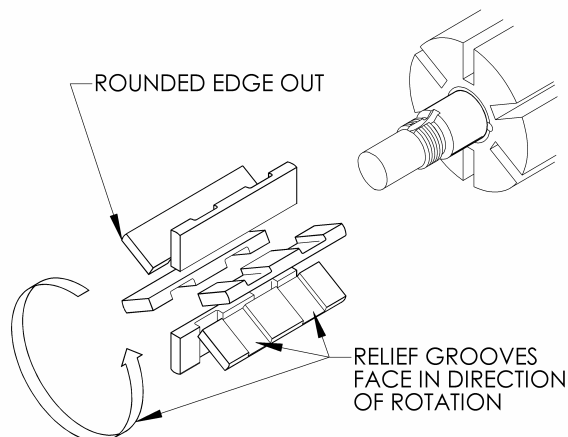

Figure 8 – Vane Installation
3. Turn the shaft by hand until a vane (14) comes to the top (12 o'clock) position of the rotor. Remove the vane.
4. Install a new vane (14), ensuring that the rounded edge is UP, and the relief grooves are facing towards the direction of rotation. See Figure 8.
1. Apply a small amount of grease to the liner key (74) to hold the key in place during liner installation. Install the liner key (74) in the groove on top of the liner (41).
2. Align the liner key (74) with the pump casing keyway and start the liner (41) into the casing (12). The word 'INTAKE' cast on the liner must face the intake port of the pump casing. Uniformly tap the outer edge of the liner with a rubber mallet to fully insert into the casing. NOTE: If the liner is installed backwards, it will restrict the port openings and cause cavitation, noise and loss of capacity.
3. Place the disc (71) against the liner with the seal cavity outward.
5. Remove the vanes (14) and push rods (77) from the rotor and shaft assembly. Inspect for wear and damage, and replace as follows:
- a. Insert the vanes into the bottom three rotor slots with the relief grooves facing in the direction of pump rotation, and with the rounded edges outward. See Figure 8.